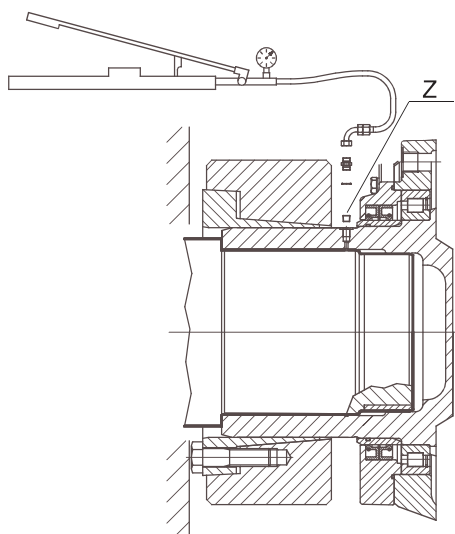

Fig. 4
- Use a pin remover and hammer to remove one of the two pins "A" from its seat (see fig. 4), remove the two springs "B", then remove the other pin.
- Slide the coupling along its axis to release it and remove cap "Z" (see fig. 4), and introduce pressurised oil (max. 1000 bar) through the 1/8" G hole to facilitate the detachment of the gear unit from the machine shaft.